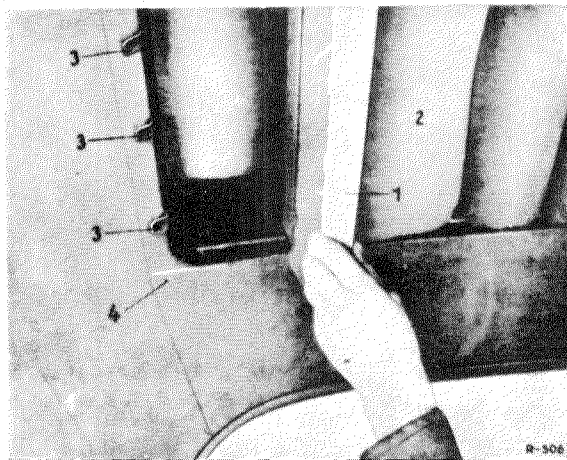

Fig. 78 — 1/1
1. Open the sliding roof and push it back half-way. Then unscrew the two visible screws (4) at the left and right rear headlining (see Fig. 78 — 1/1).
2. Detach the metal rail (1) at the rear end of the headlining (2) by pushing it out of the 5 clamps (3) (Fig. 78 — 1/1).